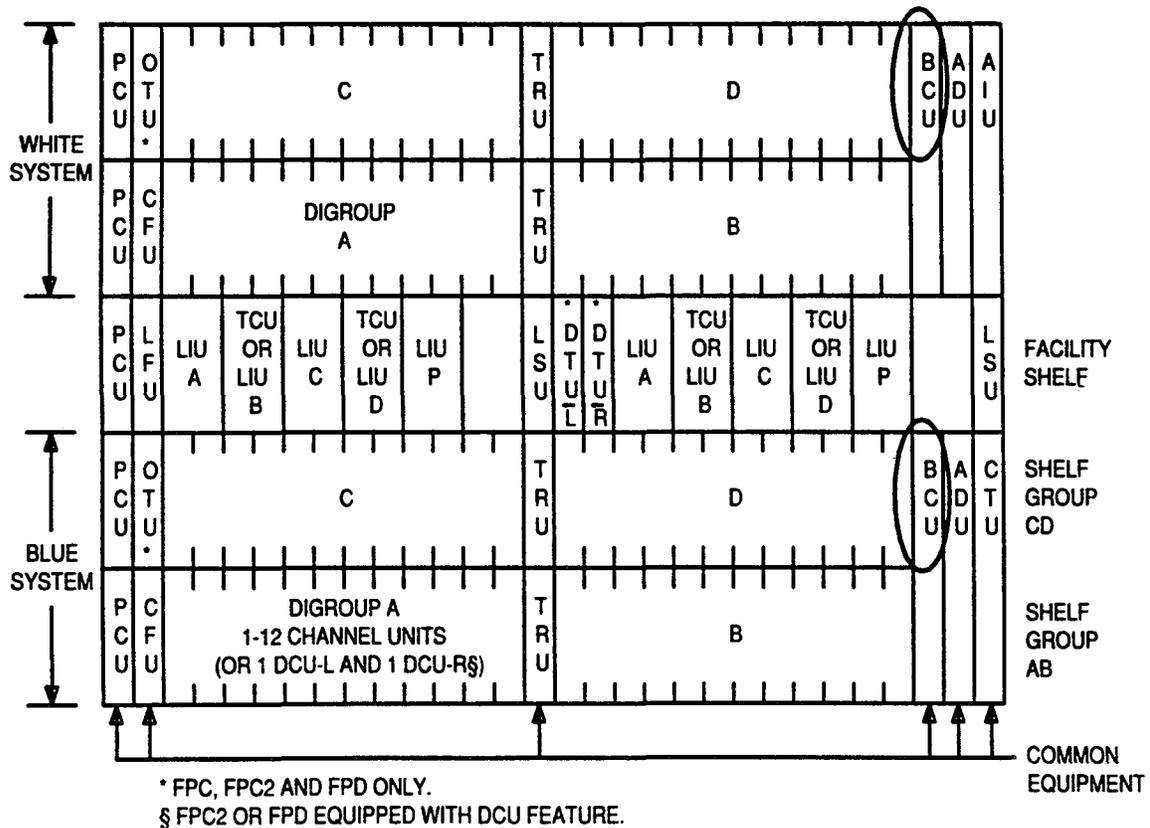

Figure 1—Location of BCUs
25. At COT, unseat BCU (FIG. 1) (to test MN and NE closures).